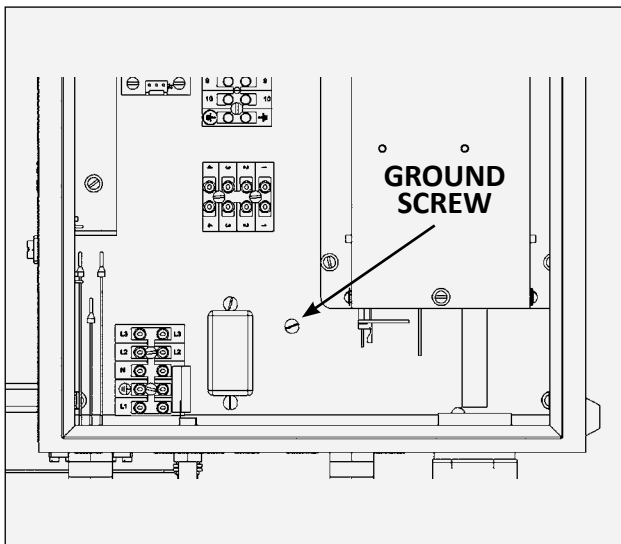

Figure 13: Ground Screw on Base Plate
3. The flow switch should have the ground (green) lead connected to the ground screw on the base plate shown in Figure 13. The trigger signal (blue) lead should be connected to the trigger signal input on the J3-5 plug header that is connected to the PC board. *The trigger signal lead should have a white ferrite attached to the lead close to the J3-5 plug.*